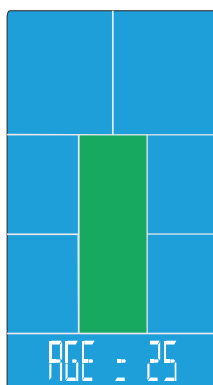
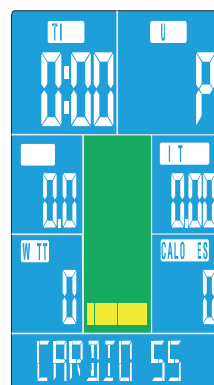
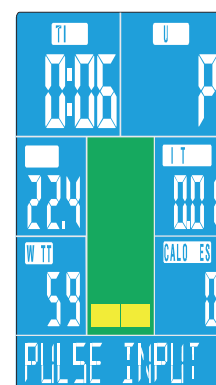

FIGURE 16
FIGURE 17
FIGURE 18
7. If select CARDIO function(15), press MODE confirm to next step, and press UP/DOWN to set age, and then press MODE confirm to next screen (Figure16). Set CARDIO 55%~TAG (Figure17). Press UP/DOWN to choose CARDIO 55%, and press MODE confirm to enter this mode. And press UP/DOWN to adjust and set TIME or press START directly to start workout. When there is no PULSE signal input in six seconds after START is executed, LCD will display "PULSE INPUT" to prompt the user (Figure 18).